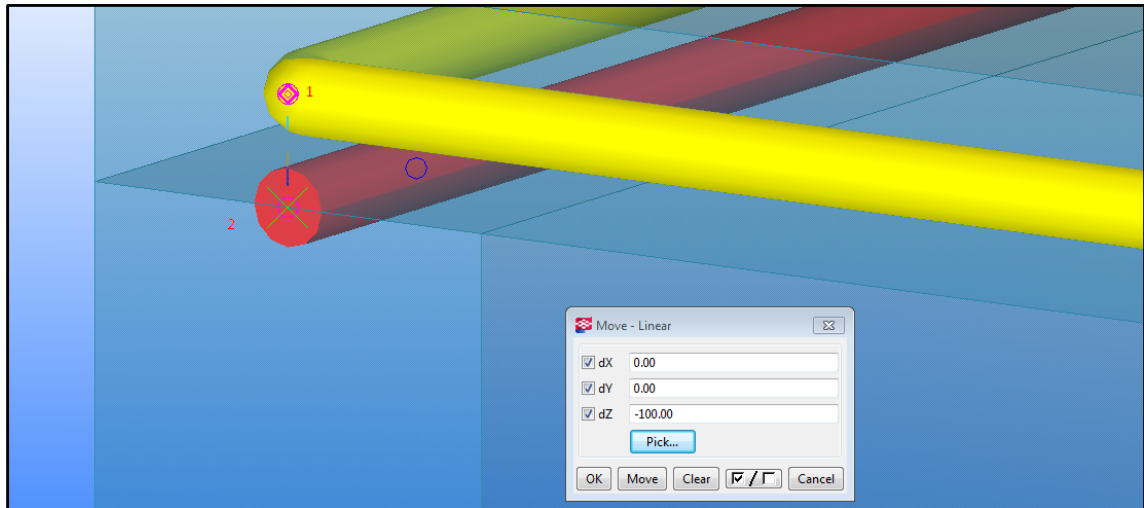

Figure 2-28
- If you know the distance between the elements, type it in the 'dZ' box (to move an element downwards, type the number with '-'). Otherwise, pick two nodes from the model to indicate the movement direction and calculate the distance, as shown in Figure 2-28.